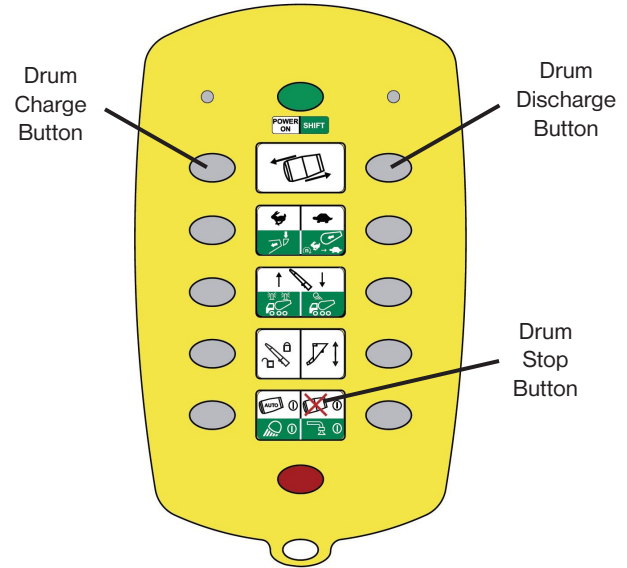

Figure 12
1. If drum rotation is paused, press the drum stop button on the OMNEX Wireless remote to resume drum rotation and enable Charge and Discharge controls (Figure 12).
2. Press the appropriate button, either Charge or Discharge on the OMNEX Wireless Remote (Figure 12).